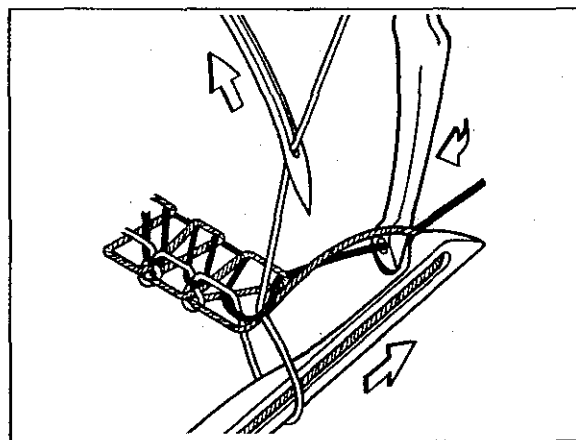

Fig. 9
Rotate handwheel in operating direction and closely observe the path of upper looper as it travels from the extreme right and approaches the lower looper as shown in Fig. 9. The point of upper looper MUST pass the notch in head of lower looper with minimum clearance and pass under lower looper thread.
3. Rotate handwheel in operating direction bringing the upper looper into the lower looper, See Fig. 9. Loosen screw (A, Fig. 11) and set the point of upper looper to enter the notched area behind head of lower looper with minimum clearance.